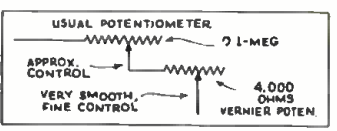

Fig. 4. Vernier regeneration.
**REGENERATION CONTROL.** By connecting in series with the usual potentiometer, a potentiometer 25 times smaller in resistance value, as shown in Fig. 4, very smooth and fine regeneration control may be had. This will be readily understood, because the arm of the low-value control moves 25 times as far as the arm of the main control to cause the same amount of circuit change.